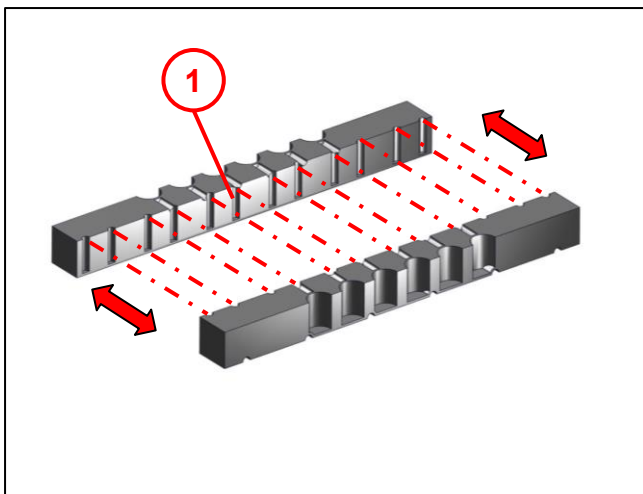

Fig. 14
- Insert the second sealing insert **(4)** (see also Fig. 14).